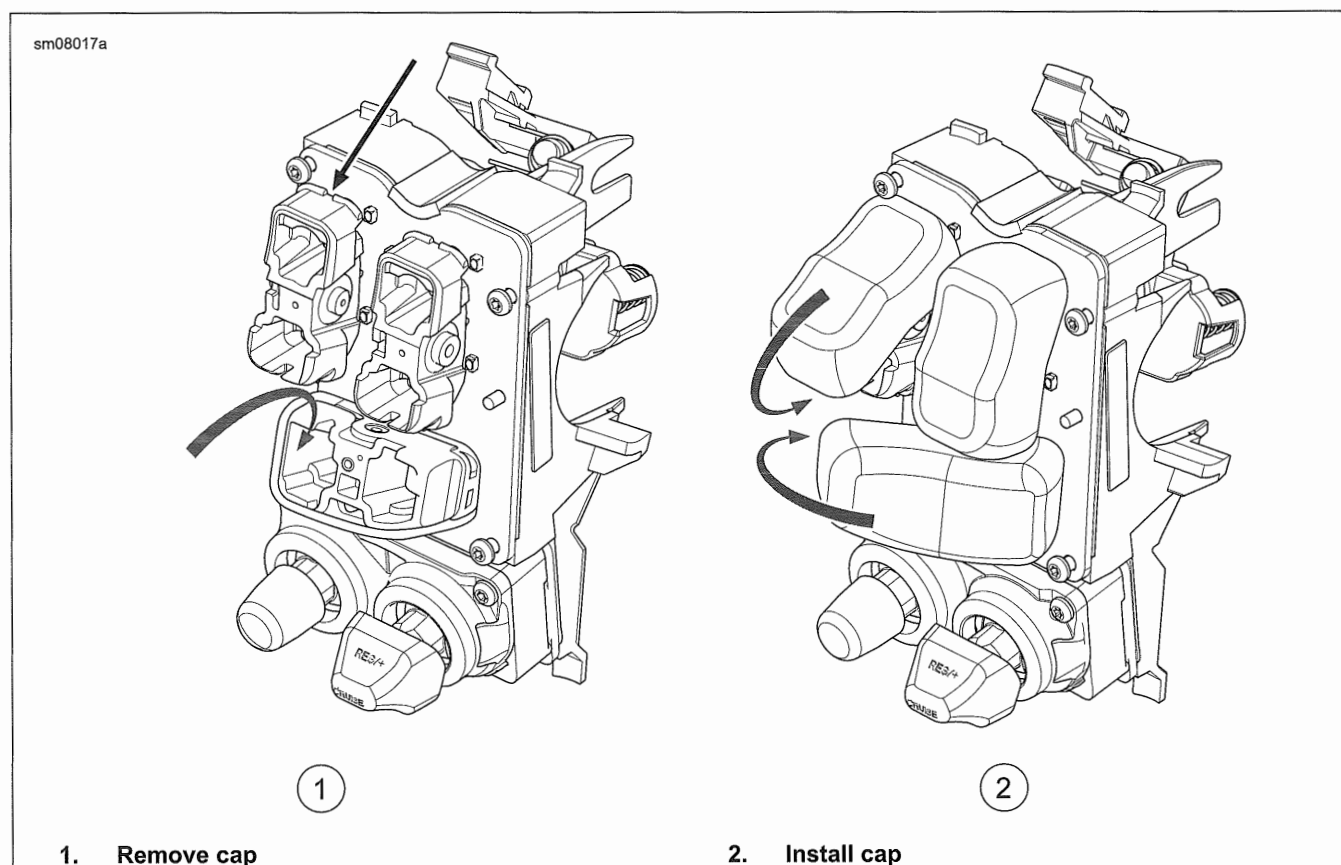

Figure 7-28. Replace Switch Caps (Typical)
- a. **Rocker switch caps:** See Figure 7-28. Entering from the end, carefully pry between the switch cap and switch plunger. Remove switch cap.